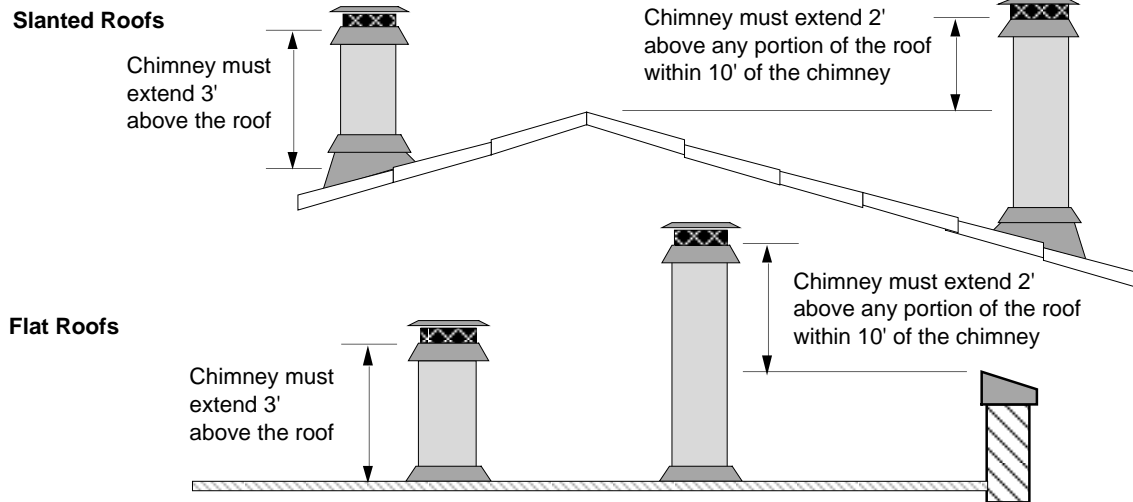

Figure 3
- Must terminate at least 3' (914mm) above the roof **and** at least 2' (610mm) above any portion of the roof within 10' (3.048M) (see Figure 3)